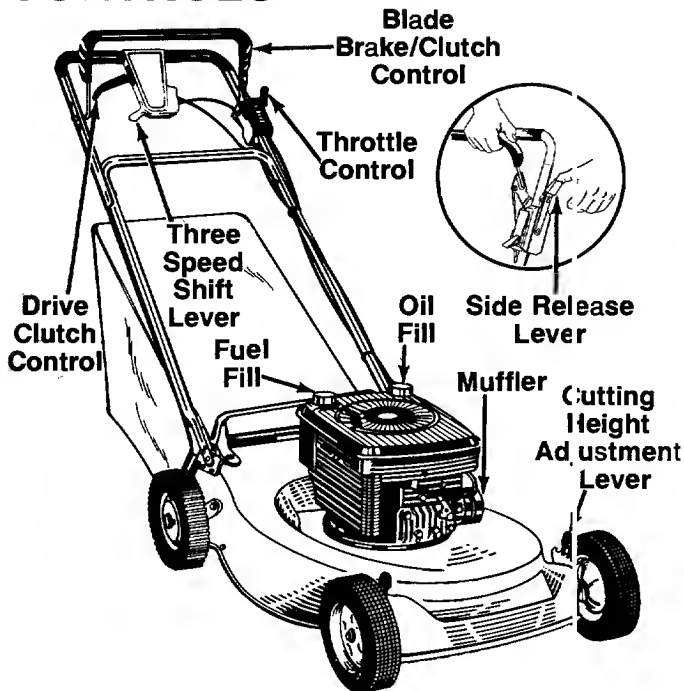

FIGURE 16.
The throttle is located on the left side of handle. It controls engine speed. See figure 16.
Squeezing the drive clutch control engages the drive mechanism to the rear wheels. Releasing the clutch control stops the rear wheels from driving. Release the drive clutch control to slow down when negotiating an obstacle, making a turn or stopping. See figure 16.
To engage the blade, pull the side release lever away from the unit. See figure 16. Pull the blade brake/clutch control handle against the upper handle. Release side lever.
The three speed shift lever is located on the drive clutch control housing on the upper handle. See figure 16. This lever is used to select the operating speed of the mower. Release the drive clutch control and stop the mower before changing speeds.
2. To engage the blade, pull the side release lever away from the unit. Pull the blade brake/clutch control handle down against the upper handle. Release the side lever. See figure 16.